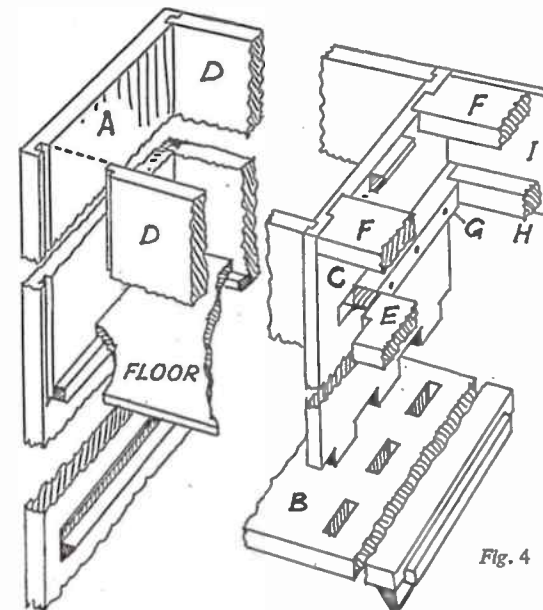

Fig. 4
$\frac{1}{2}$ in. square fillets as seen in the cut-away section in Fig. 4. The top cross-rails should be $\frac{1}{2}$ in. thick and let in half way
screwed inside the sides and along the back (I). This latter consists of $\frac{1}{2}$ in. plywood fixed to the back of rail and to (H), see Fig. 4 and Fig. 3. The top of the table, on the right, is $\frac{1}{2}$ in. thick and may be of plywood, as is also the lid of the cabinet alongside. The top is screwed to the rails and glue-blocked as seen in Fig. 3. The lid is, of course, hinged to the top as in the detail Fig. 5. On the left of the lid is screwed a block of wood to act as a lift when opening it Fig. 5).